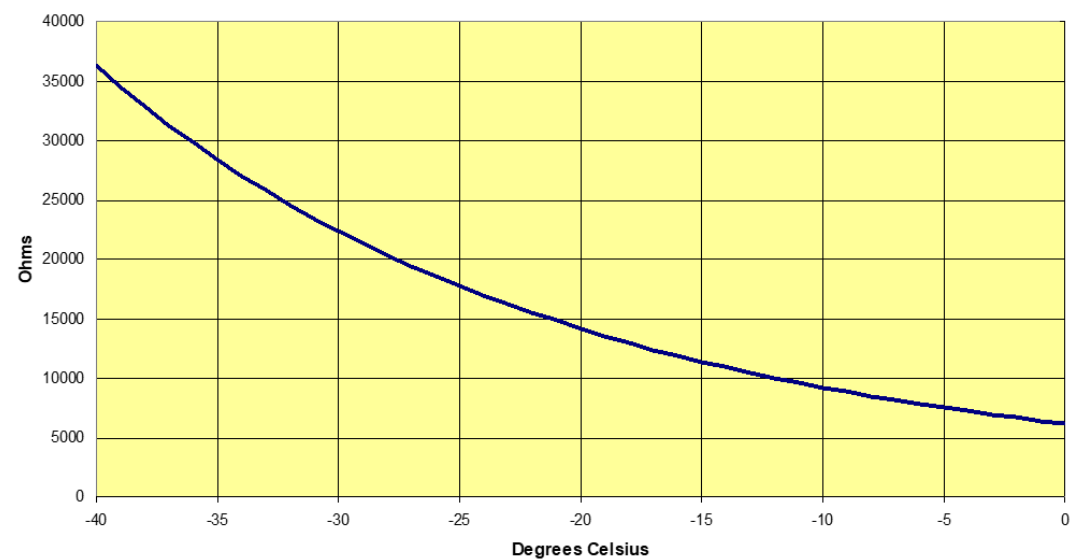

Figure 3. Thermistor resistance vs. temperature, -40° to 0°C
- 1) Measure the thermistor resistance directly using an ohmmeter connected to the “Temperature Excitation” and “Temperature Out” wires, and then convert this resistance to temperature. This conversion may be done with the help of Figures 2, 3 and 4. Figure 2 graphs thermistor resistance vs. the full temperature range of -50° to +70°C. Figures 3 and 4 are enlargements of the regions below and above 0°C.